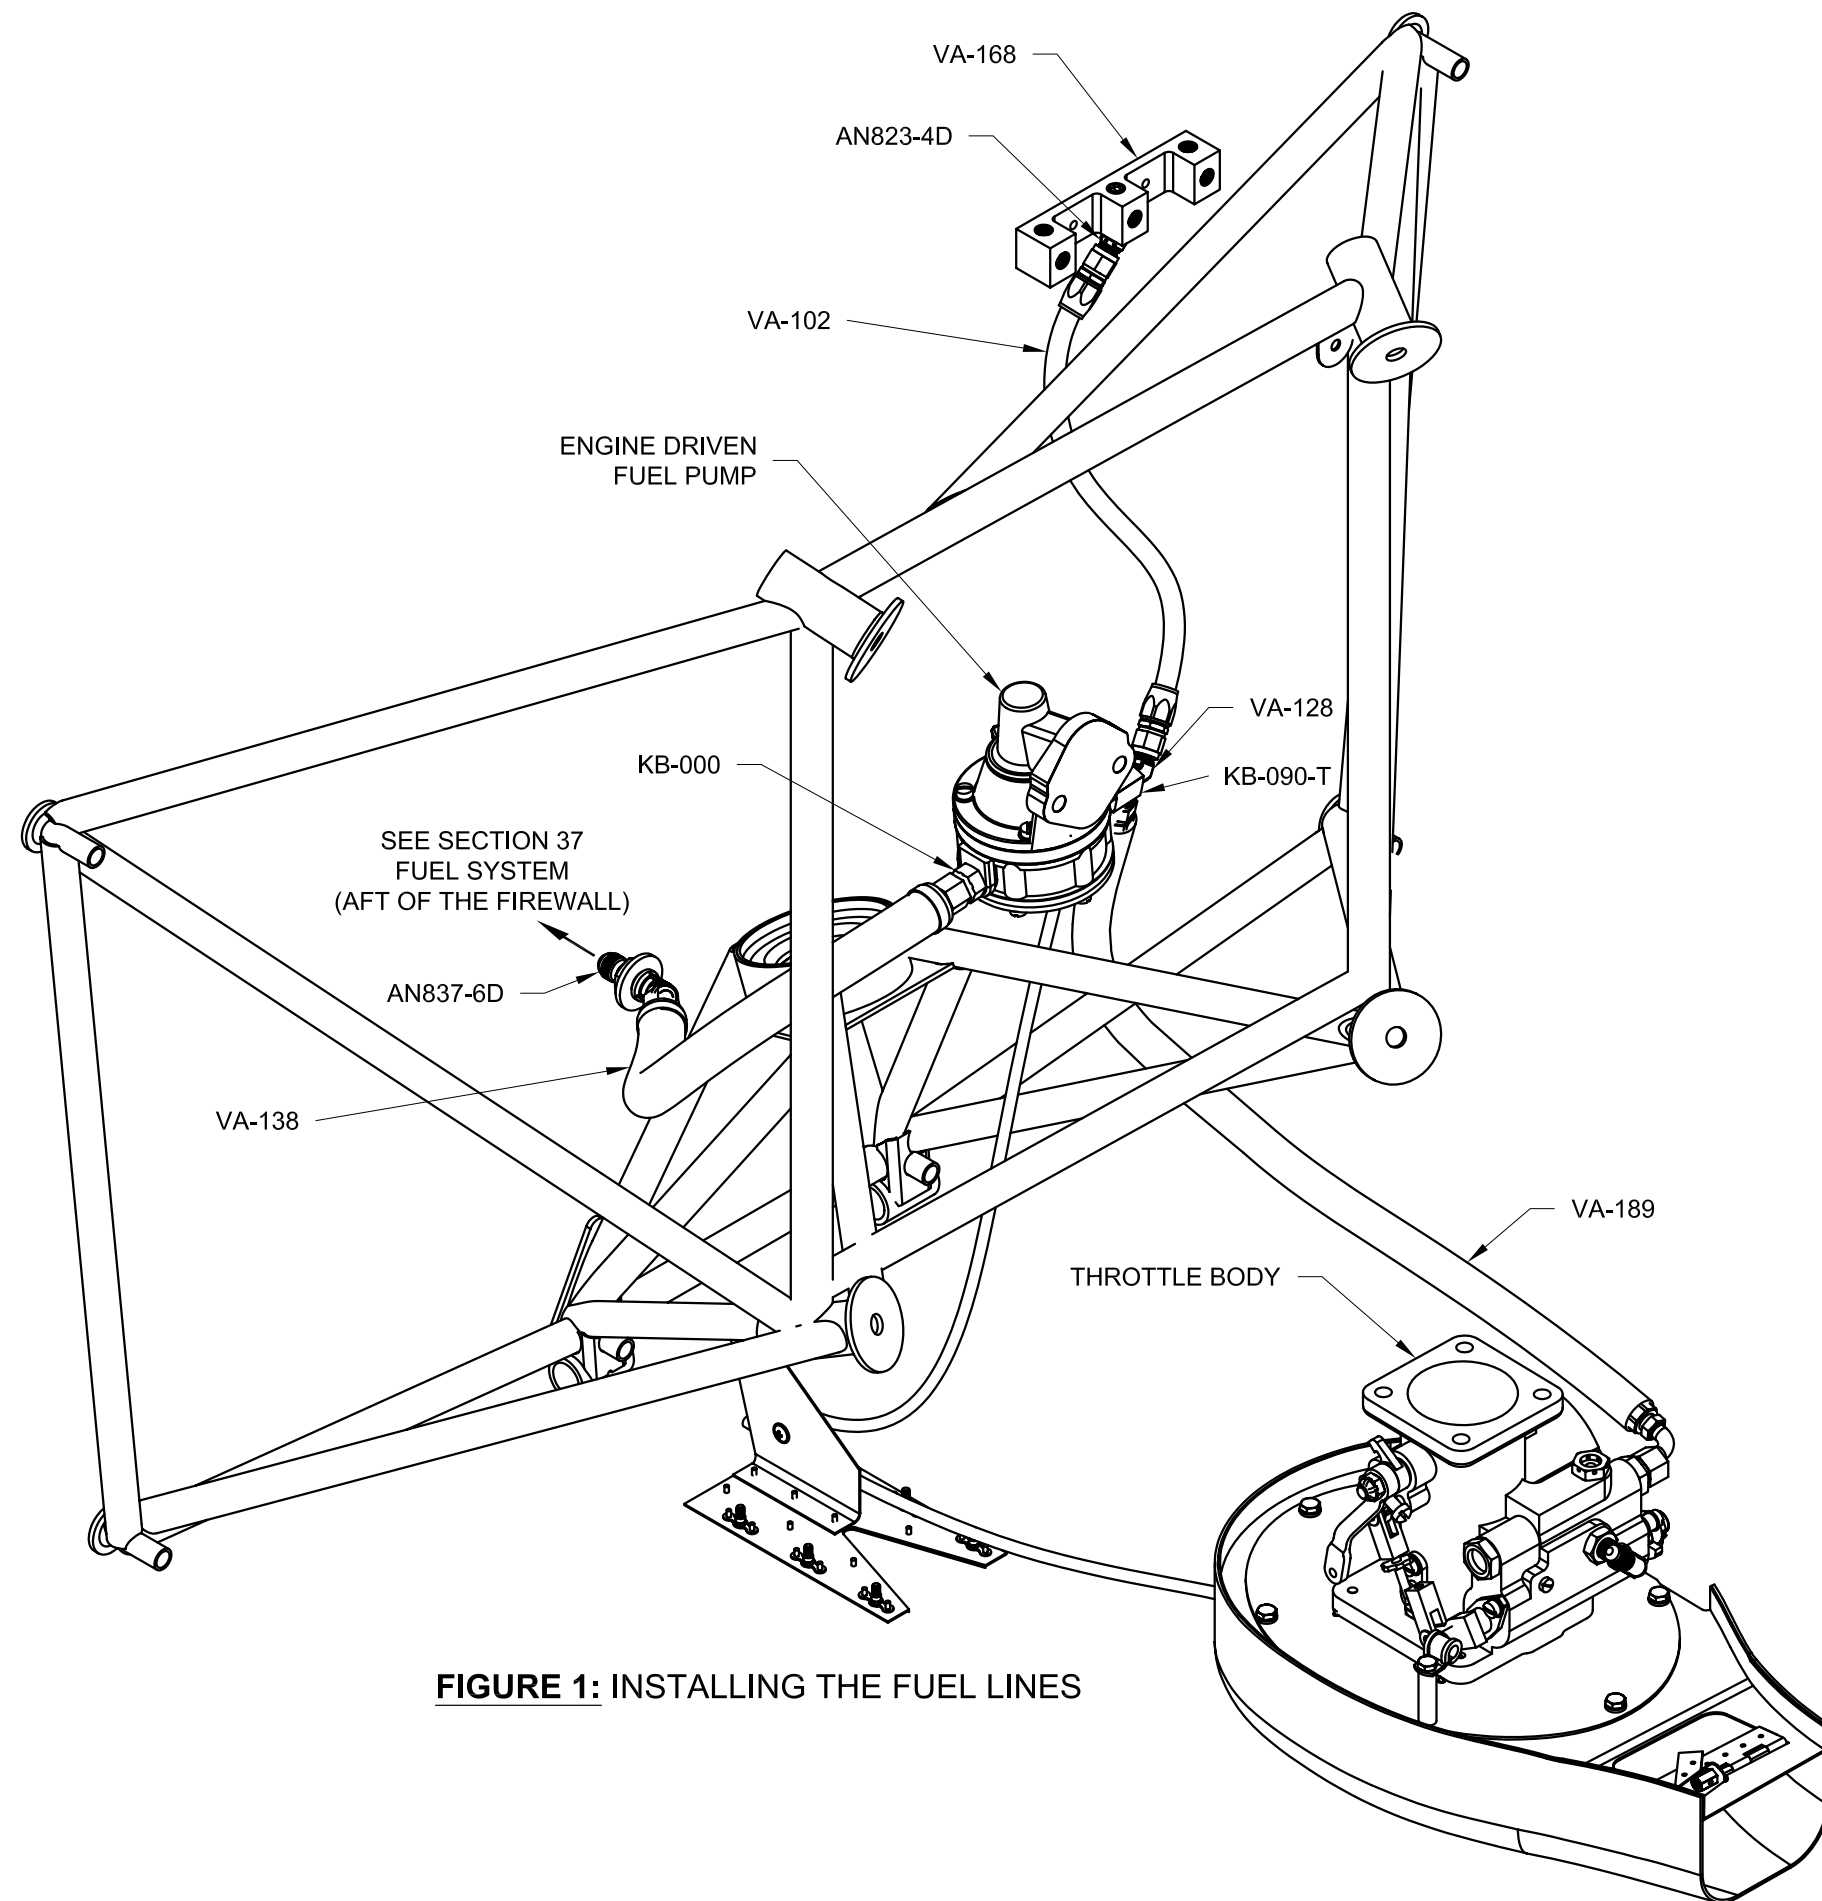

FIGURE 1: INSTALLING THE FUEL LINES
Step 2: Attach the VA-102 Fuel Pressure Hose to the VA-128 Restrictor Fitting and the AN823-4D 45° elbow fitting on the bottom side of the VA-168 Sender Mount. See Figure 1.
Step 3: Attach the VA-138 Fuel Supply Hose to the KB-000 straight fitting on the engine driven fuel pump and the AN837-6D 45° elbow bulkhead fitting on the firewall bulkhead. See Figure 1.